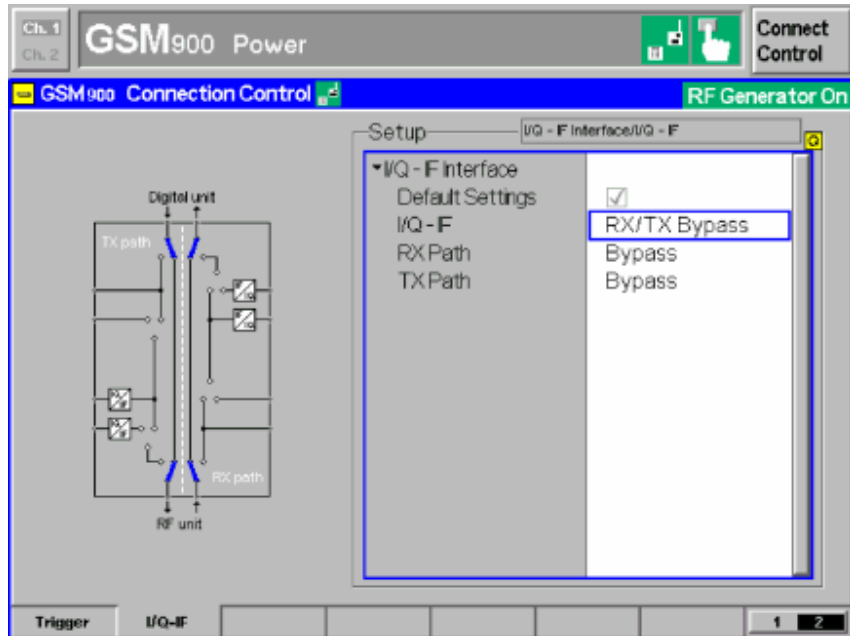
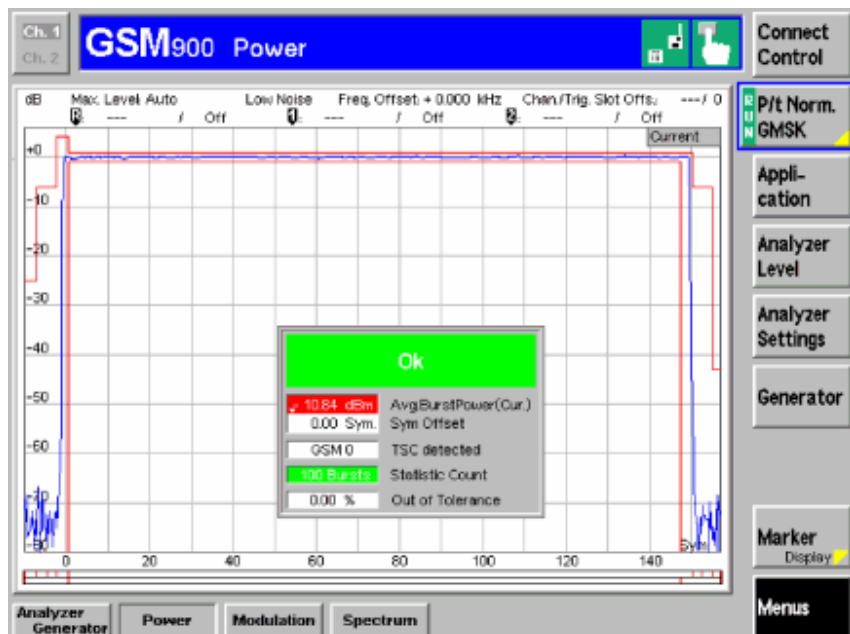
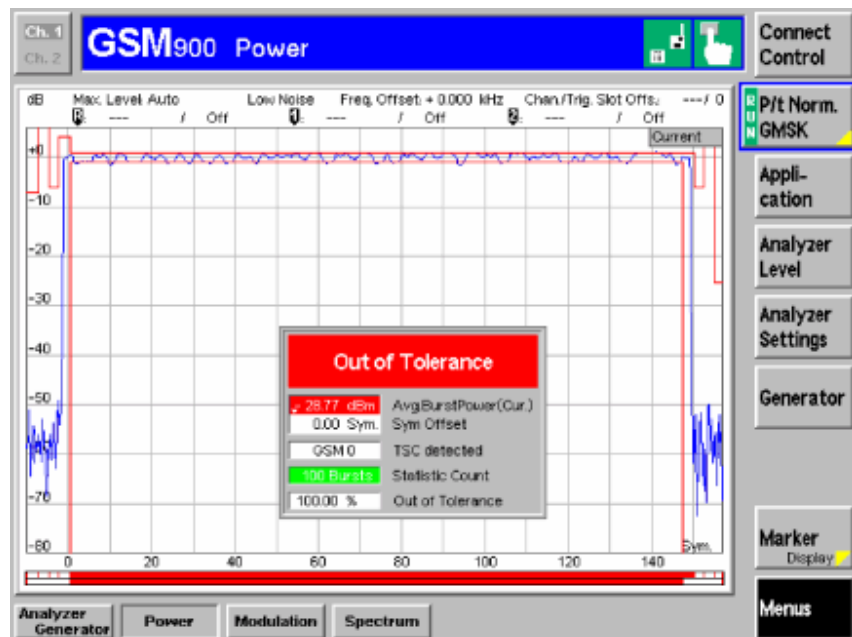

Fig. 8 IQ/IF Bypass Configuration
Fig. 9 Burst Power in Bypass Mode
Fig. 11 Burst Power with Calibration Mode Standard Fading
4. Set the IQ/IF board to Bypass mode (Fig.8) in order to obtain the reference Average Burst Power **PREF** (Fig.9).
6. The resulting Average Burst Power P_{MEAS} (Fig. 11) must be subtracted from the reference power P_{REF} (Fig. 9) to obtain the hardware attenuation of the IQ path.